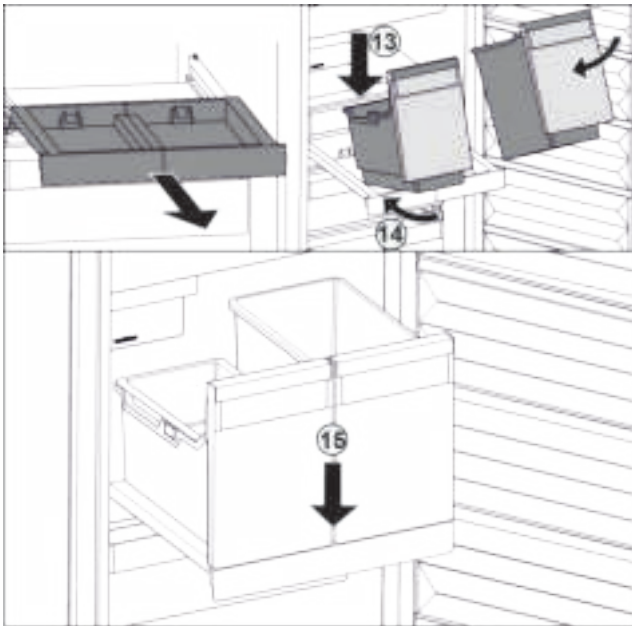

Fig. 24
- ▶ Place the container at an angle on the pull-out board. Fig. 24 (13)
- ▶ Slide in the container at an angle to the back. Fig. 24 (14)
- ▶ Place container at the front. Fig. 24 (15)